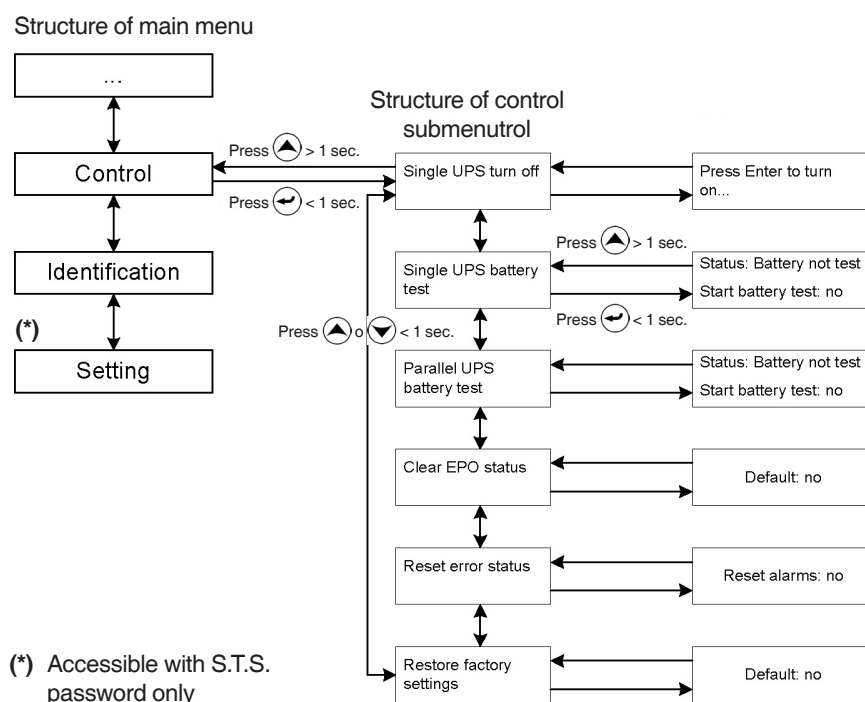

Fig. 34. Control submenu screens.
- When pressing the key \odot for less than 1 sec. from this "Control" submenu, it is accessed to the control structure (see figure 34).